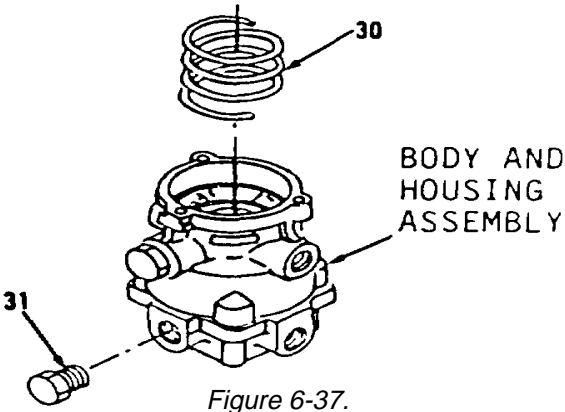

Figure 6-37.
- 10. Install plug (31) and spring (30, Figure 6-37) to body and housing assembly.